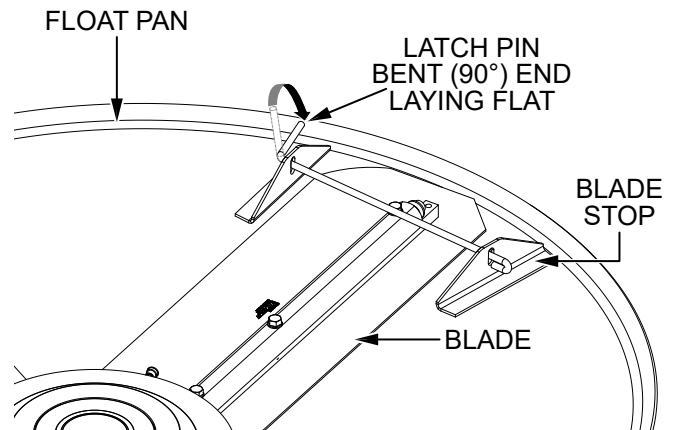

Figure 30. Latch Pin Placement
4. After it has been routed through the **blade stop** holes, rotate the **latch pin** so the end that is bent approximately 90 degrees lays flat on the surface of the **float pan**. See Figure 30.